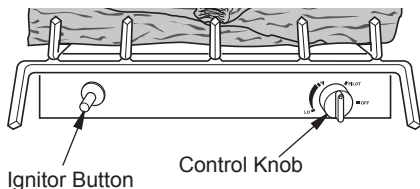

Figure 22 - Control Knob and Ignitor Button Location
- Slightly press and turn control knob counterclockwise  to the PILOT position. Press in control knob for five (5) seconds (see Figure 22).